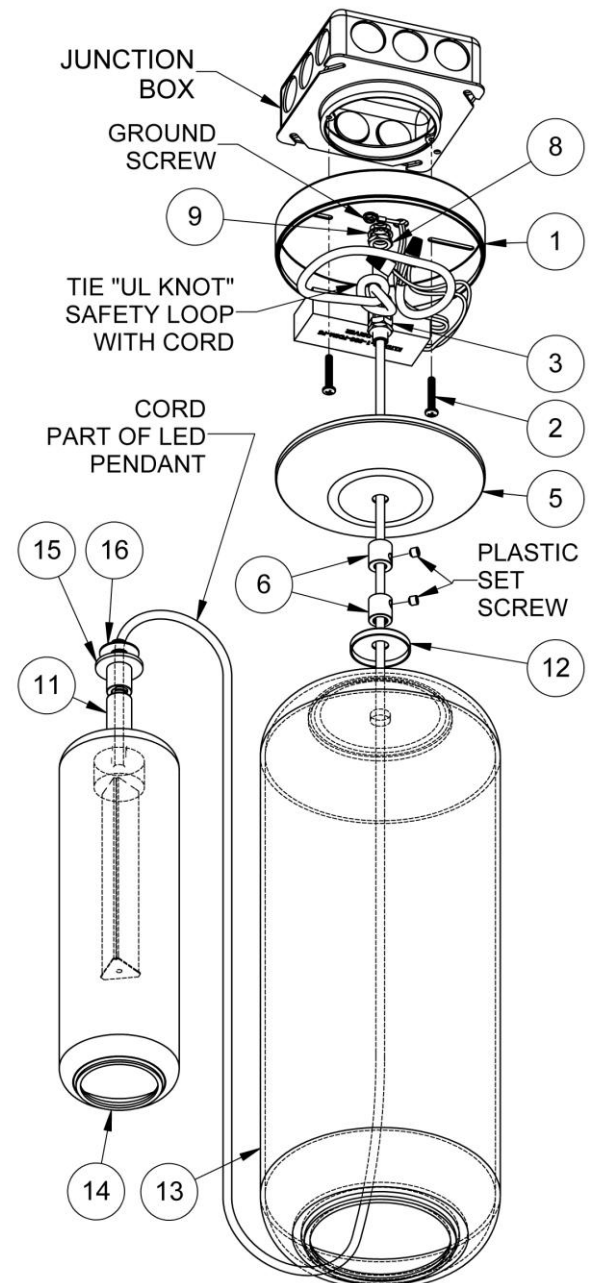
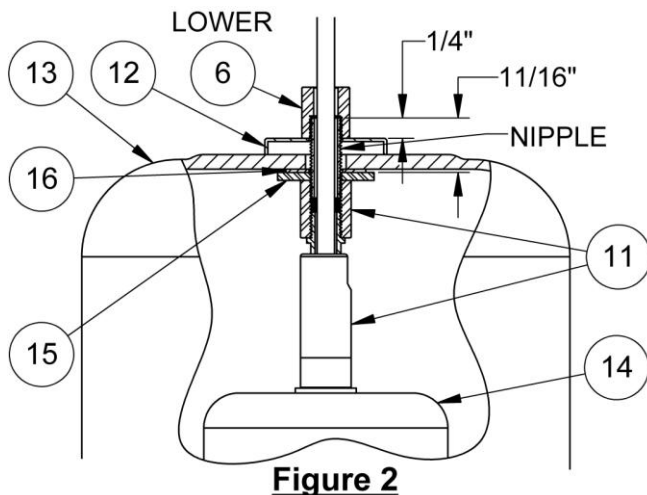
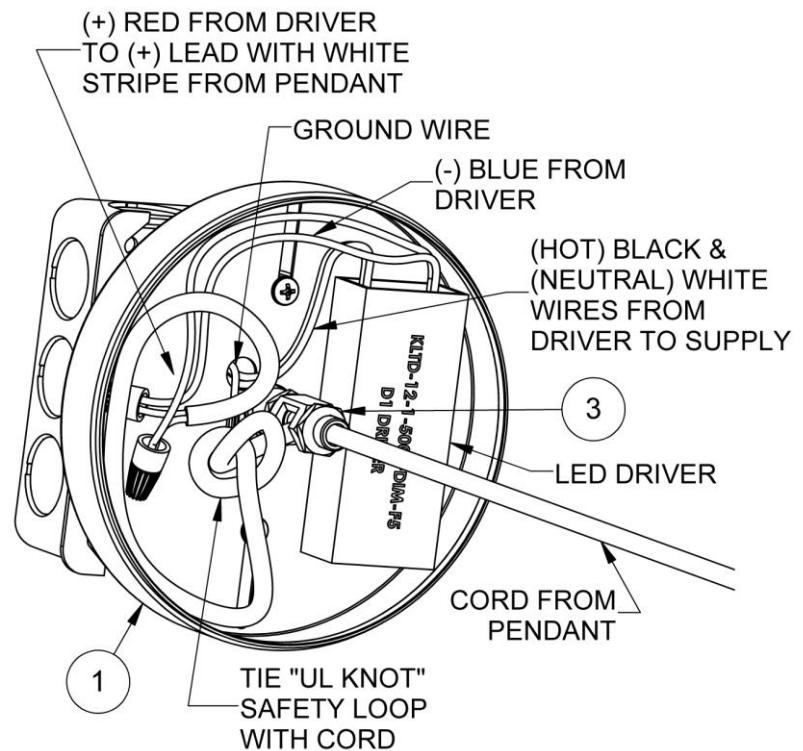
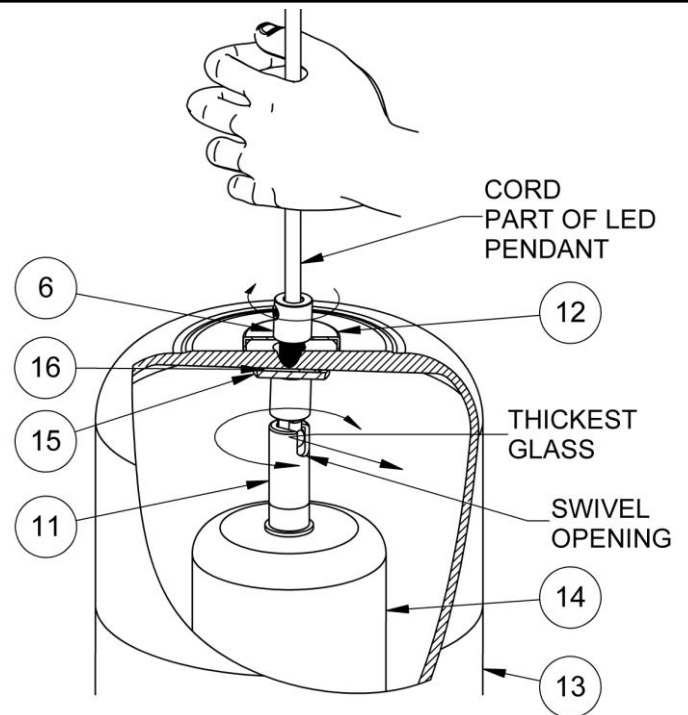

Figure 1
Figure 2
Figure 3
Figure 5
2. Pendant Glass Assembly (Figure 1, 2 & 5)
- A. Uncoil cord, part of LED pendant inner glass assembly (14) and thread the loose end through outer glass (13), cap (12) & lower strain relief (6), per Figure 1. Remove the tape from the nipple near rubber washer (16). Make sure threaded washer (15) is snug against the threaded insert of the swivel (11) and that none of the components are loose. Approx. 11/16" of the threaded nipple should protrude above (15) per Figure 2. If adjustments are needed, hand tighten only.
- B. Carefully bring inner glass assembly (14) up into the outer glass (13) with rubber washer (16) against the inside top of outer glass (13), Figure 2.
- C. You may set the outer glass on a table to do this step. Hold onto the cord allowing inner glass (14) to hang, as in Figure 5. With the cap (12) on top of (13). There should be about 1/4" of threaded nipple above (12), Figure 2. While holding the cord, thread the lower strain relief (6) onto the nipple. Make any adjustments so the inner and outer glass are centered. Lift entire glass assembly by the cord and check that the swivel is straight and the glass is hanging straight. Additional adjustments may be necessary. **If inner glass is not straight, go to step 6. Swivel Adjustment.**
- D. Insert the upper strain relief (6), threaded side up onto the cord, Figure 1. Temporarily secure upper strain relief onto cord at desired height by tightening the plastic set screw with a small slotted screwdriver (not included).
- E. Feed the cord through the center hole of decorative canopy (5) and move it down to the upper strain relief (6) position.
3. Fixture Assembly (Figure 3 & 4)
- B. A strip of double sided adhesive tape is provided to affix the driver to the canopy. Affix tape to bottom of driver and driver to inside of canopy (5) without blocking any holes as in Figure 3.
- C. Feed cord from pendant (14) with strain relief and decorative canopy into the bottom of coupling (3) and out the wire opening per Figure 3 & 4.
- D. Route the pendant cord into the bottom of coupling (3) and out of the wire opening. Establish the length needed from the strain relief and tie a safety loop by the wire opening as shown in Figure 3 & 4.
- F. Connect two pre-stripped wires from LED pendant (14) cord to the driver with two blue wire nuts as follows:
- B. Turn the inner glass assembly with swivel (11) so that the opening is facing the thickest part of the glass. Figure 5, 6 & 7.